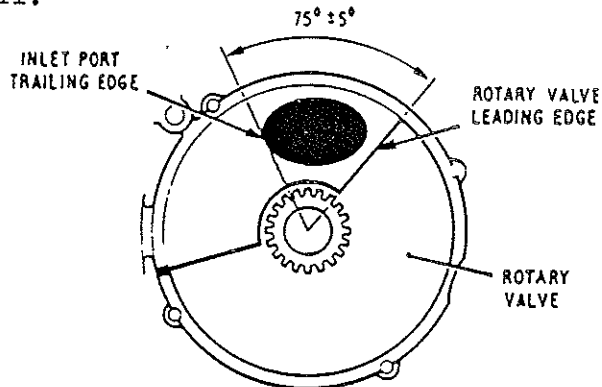

FIG. 1.6 - ROTARY VALVE TIMING (B)
- b. From the closing edge of the inlet port mark  $75^\circ$  (clockwise). See Fig. 1.6.